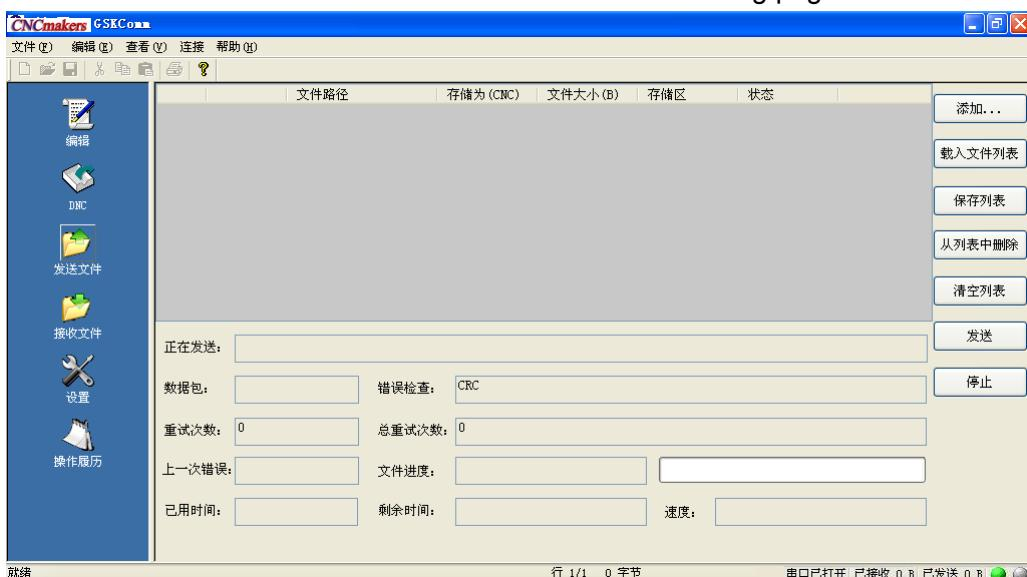

Fig. 11-2-2-5
3. Click button **Add File**, and add the required file to send to the CNC, which is shown in Fig. 11-2-2-6.